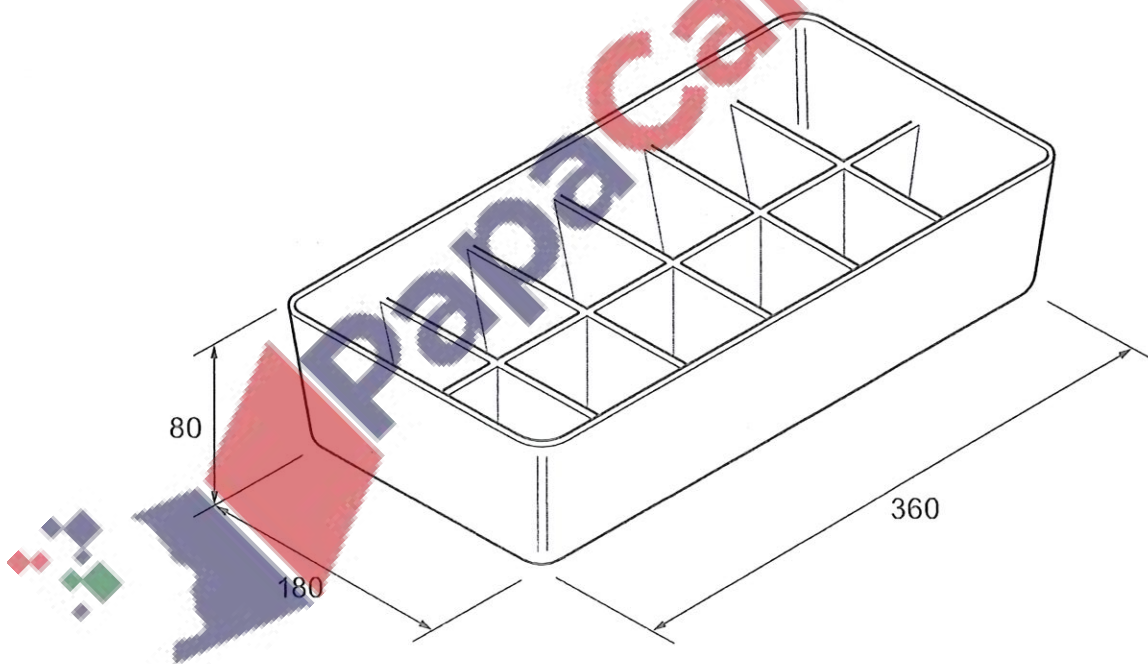

Fig. 12.3
- (f) Fig. 12.3 shows a similar design for a storage box made from injection moulded plastic.